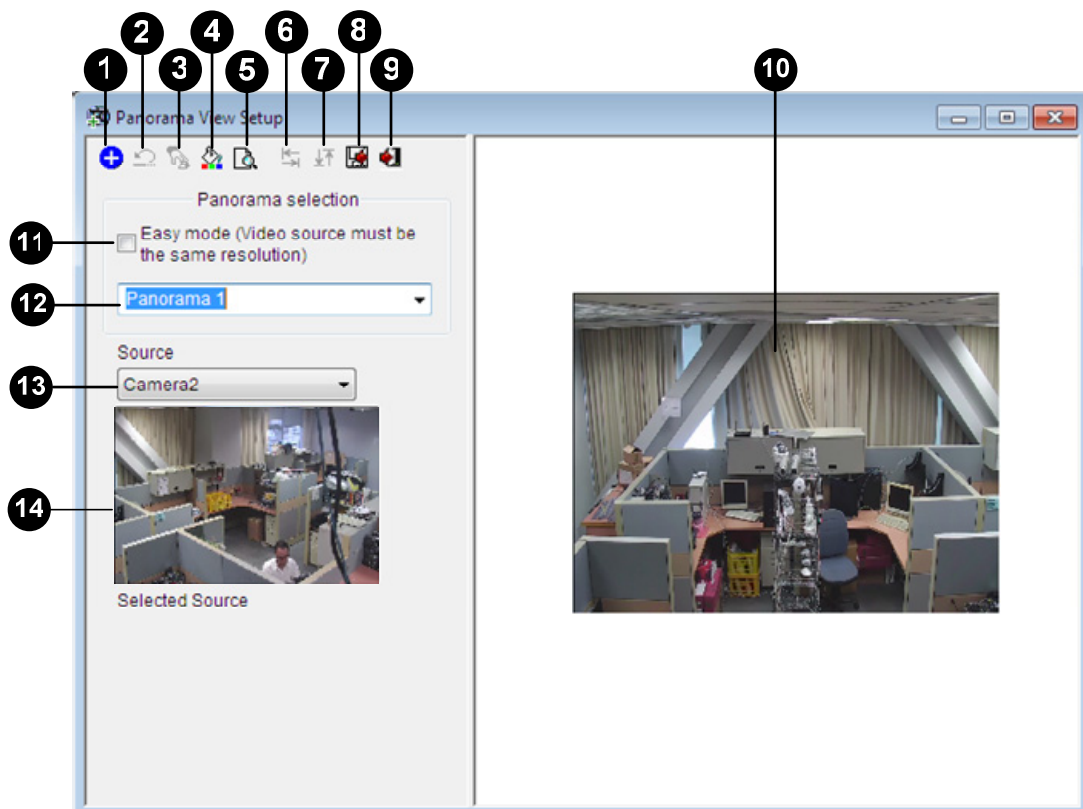

Figure 3-30
1. Select one panorama set (No. 12, Figure 3-30) from the drop-down list. If you want to rename the selected panorama set, type the name in the field.
3. Select another camera from the Source drop-down list (No. 13, Figure 3-30) and click **Manual Setting** (No.3, Figure 3-30). This dialog box appears.
8. When you finish stitching images, click the **Save Before Exit** button (No.6, Figure 3-30) to save the created panorama view before exiting the Panorama View Setup dialog box.
1. Select **Easy Mode (Video source must be of the same resolution)** (No. 11, Figure 3-30).
2. Use the **Source** drop-down list (No. 13, Figure 3-30) to select the first camera view to be placed in the panorama and click the **Add**  button. The first camera view is added to the Preview Window.